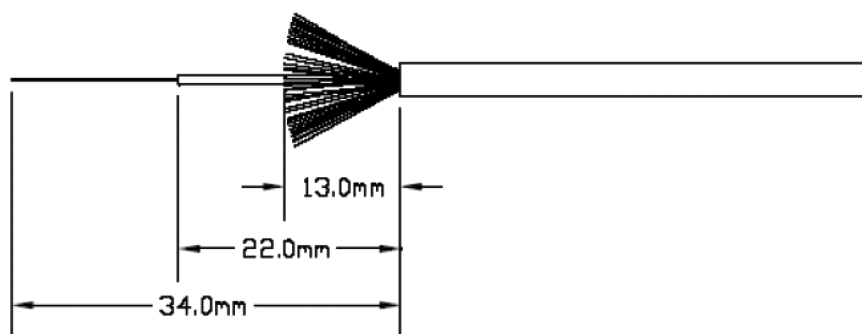

Fig. 3
Step 2 Use jacket stripper and Kevlar cutter to prep cable per Fig 3. Use buffer stripper to remove the require length of buffer per Fig 3.